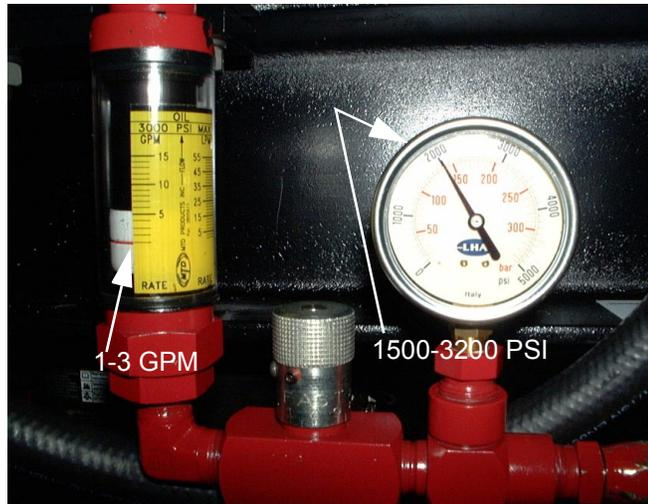

Figure 1
1. Continue to close the needle valve slowly until the flow gauge reads approximately 1 GPM. _____ See Figure 1.